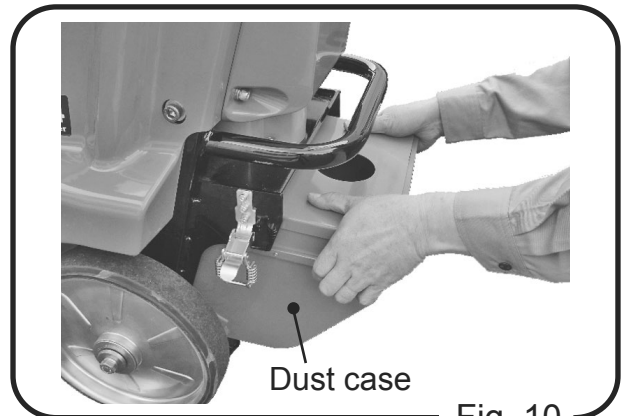

Fig. 10
- C. Pull out the dust case, and remove the dust case plate (Fig. 10)